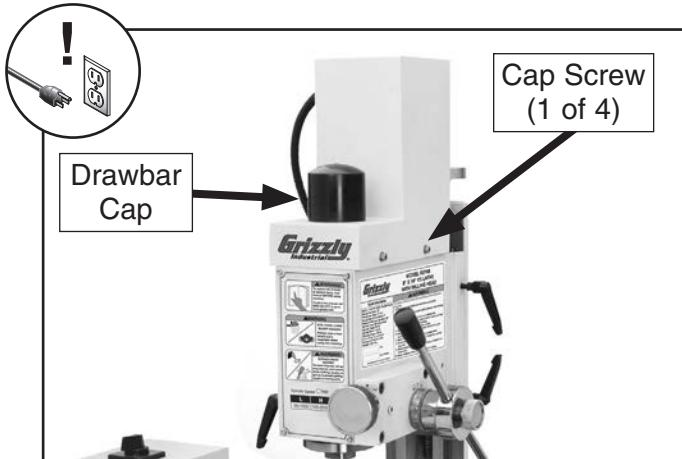

Figure 154. Location of mill motor cover screws.
2. Remove drawbar cap, then remove motor cover by removing cap screws (see **Figure 154**).